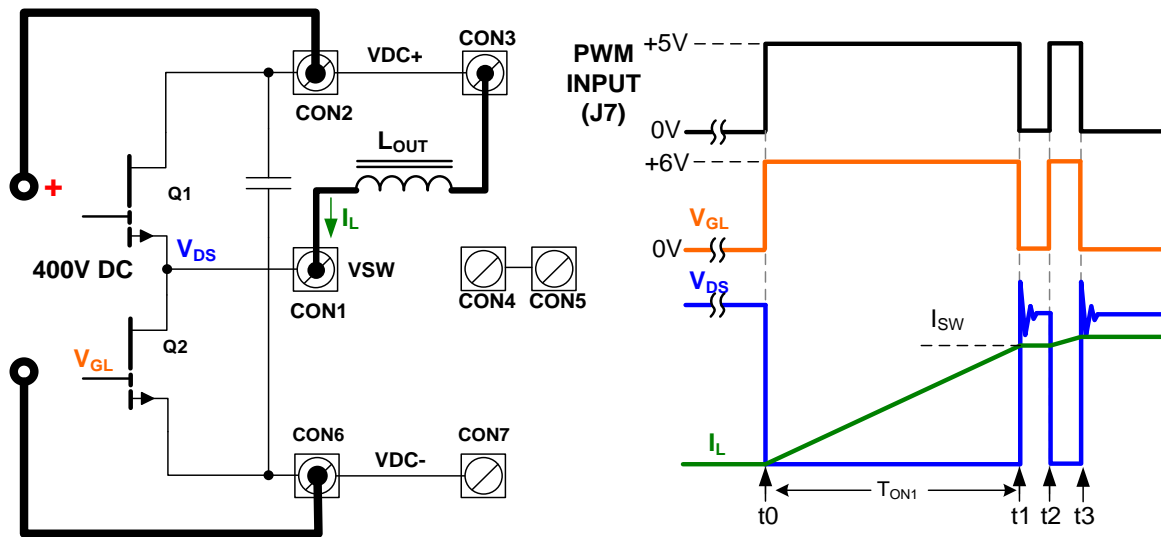

Figure 14 Double pulse test setup
The circuit configuration and operating principle can be found in Figure 14:
- d. Set High voltage (HV) DC supply voltage to 0V and ensure the output is OFF. Connect HV supply to **CON2** and **CON6**.
- c. Set up signal generator to create the waveforms as shown in Figure 14. Use equation $I_{sw} = (V_{DS} \cdot T_{ON1}) / L$ to calculate the pulse width of the first pulse and ensure the I_{sw_max} is $\leq 30A$ at 400VDC.